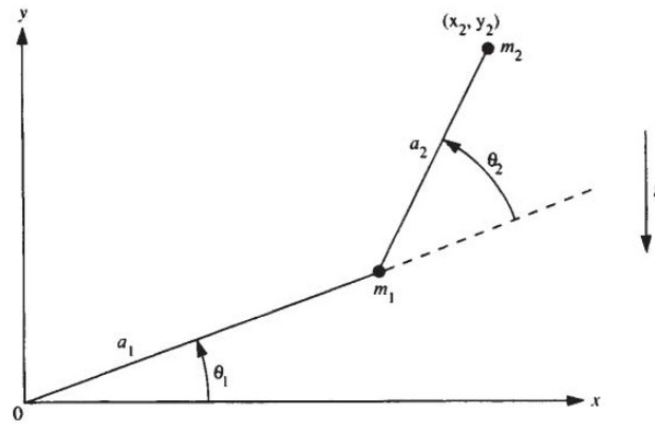

Figure Q2b
- (b) In Figure Q2b are given the kinematics for a two-link planar RR arm, with τ_1 , and τ_2 torques supplied by the actuators. The assumption is that the link masses are concentrated at the ends of the links. The joint variable and the generalized force vector are given as: